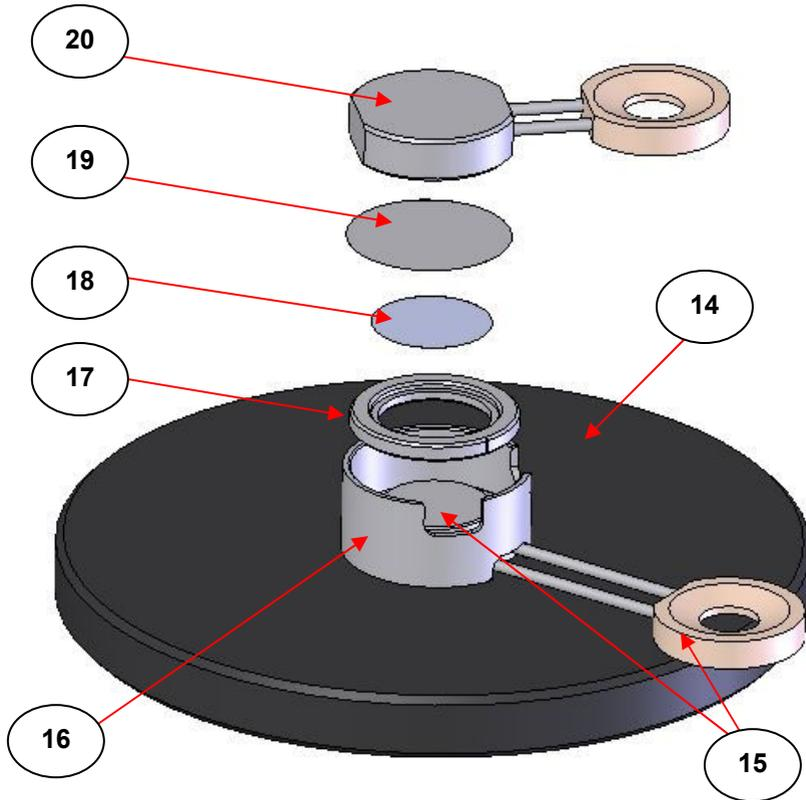

Fig 5. Mini-Film Maker Assembly
Prior to placing a polymer sample in the Mini-Film Maker press (1) set at a particular operating temperature to form a thin film, the polymer/plastic sample is prepared in the Film Maker Assembly (3). Fig 5. shows an exploded view of the Film Maker Assembly (3) parts for the sequence of their construction.
A cooling plate (14) is provided to place a **hot** Mini-Film Maker Assembly (3) when it is taken out of the press (1) after pressing. In Fig 5. the lower film platen assembly (15) is seen resting on the cooling plate (14). The film maker shield (16) has been placed the correct way up over the lower film platen assembly (15).
Although not shown in Fig 5., the next stage for construction is introduction of a polymer/plastic sample. (The amount of sample to use will vary dependent upon the thickness of film to produce and the sample type itself.) Carefully place the polymer/plastic sample to be pressed centrally over the smaller diameter foil (18) surface.